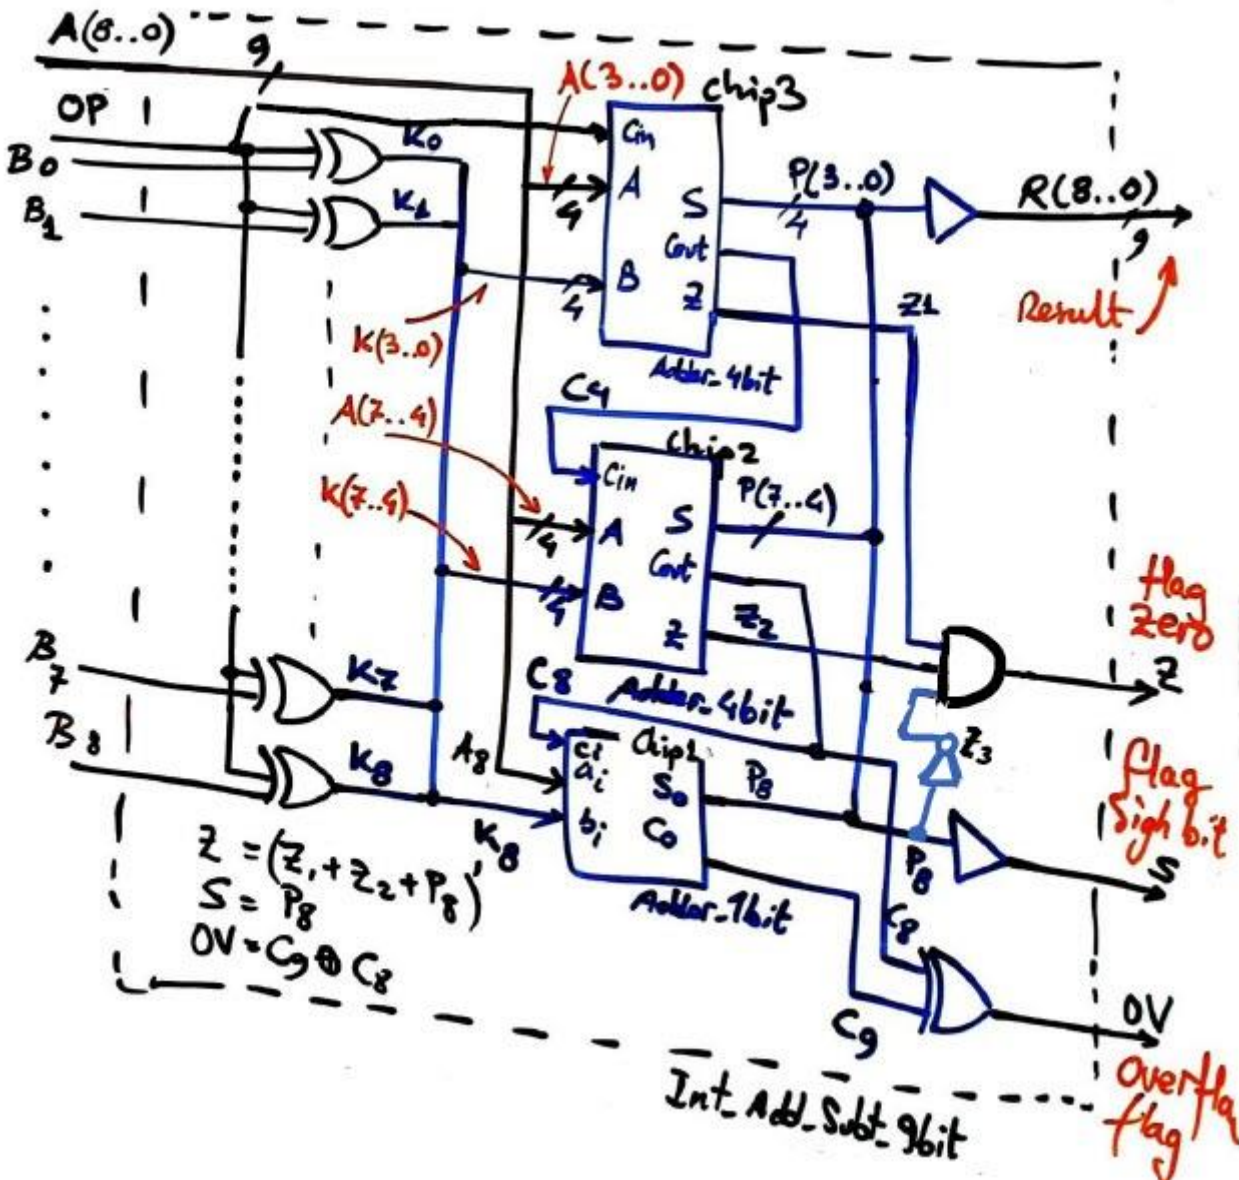

Fig. 4. Schematic plan C annotated ready for translation to VHDL.
- b. Redraw circuit in Fig. 4 in your own style. Discuss why such circuit may work correctly. Write circuit's truth table using some examples and a sketch an example of timing diagram.